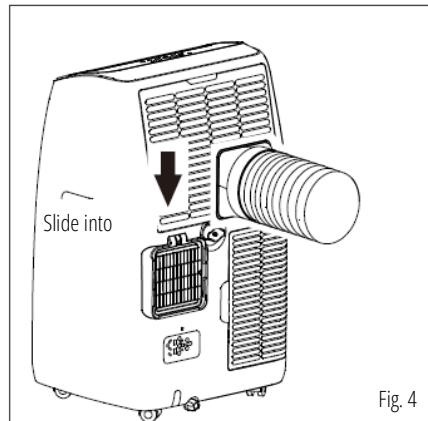

Fig. 4
- 4) Install the hose inlet into the unit. (Fig. 4)